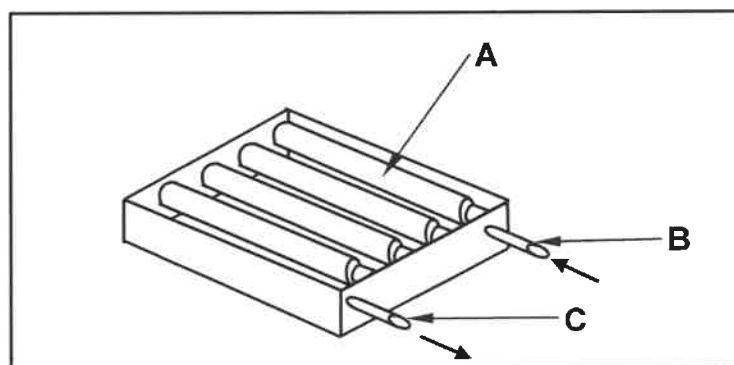

FIGURE 4.8
- 4.8 FIGURE 4.8 below shows a part in a solar water heater installation.